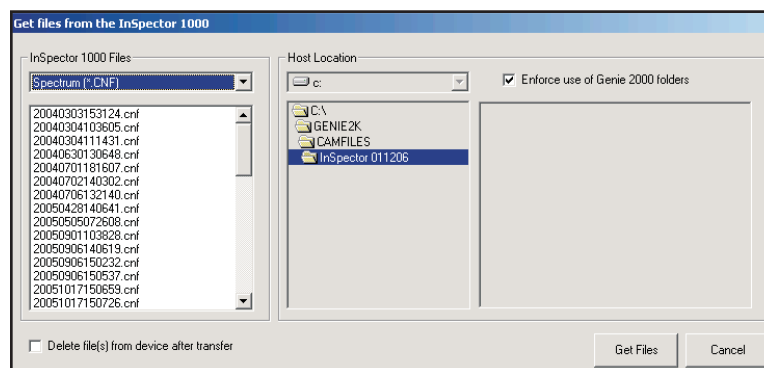

Figure 87 The Get Files List
2. By default, spectrum files (CNF) are copied to the PC. This can be changed from the InSpector 1000 Files drop-down list. See Figure 87.